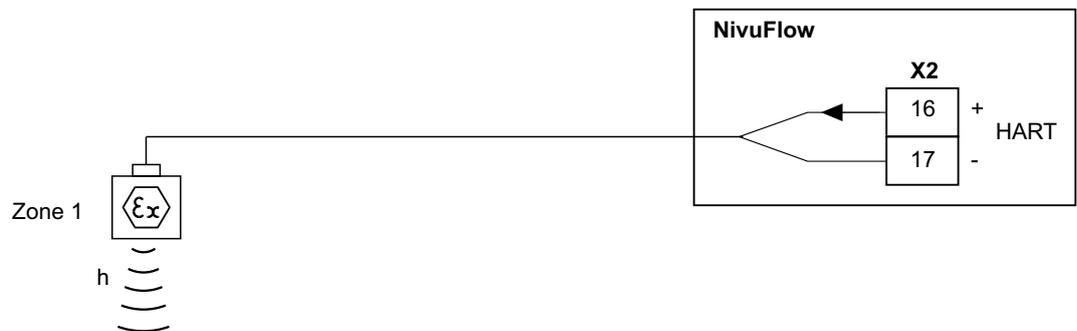

Fig. 17-6 Connecting a 2-wire sensor EX for level measurement
- ➡ Connect the 2-wire sensor according to Fig. 17-6.